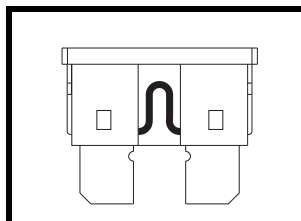

Figure 22. Working Fuse
2. Examine the fuse to be sure it is blown. See figures 22 and 23.